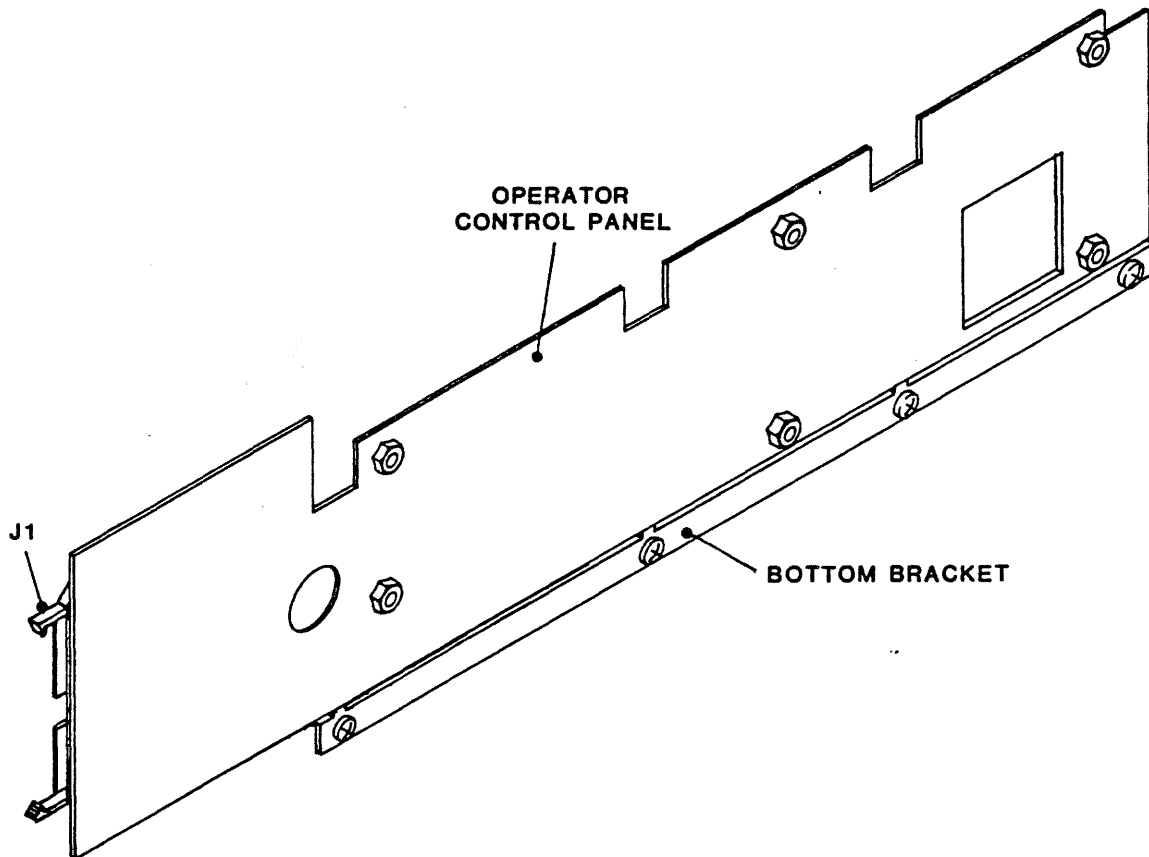

**Figure 4-9 Mother Board**
**4.3.9 MOTHER BOARD PCBA (Fig. 4-9)**